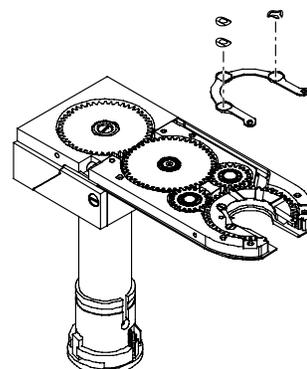

Figure 48 Removing the Brush and Springs
7. Remove the brush, wave spring, and curved disc springs as shown in Figure 48 and discard. See the spare parts list in Table 3 for ordering information and contact your authorized Swagelok sales and service representative for replacement parts.